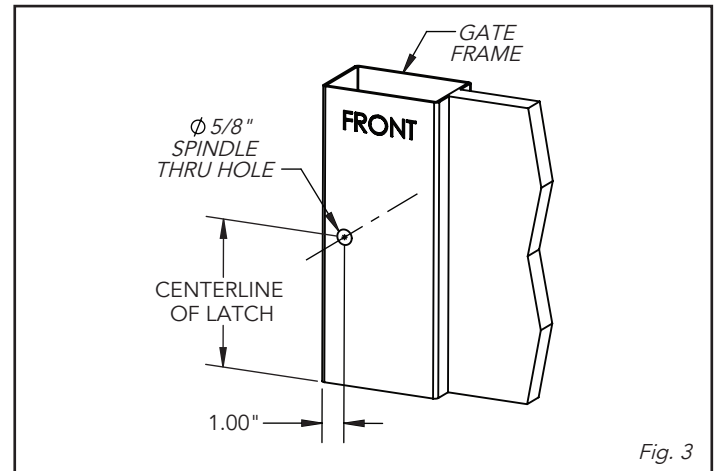

Fig. 3
6. Drill a $\varnothing 5/8"$ hole at the "5/8" center mark (handle spindle location) on the front and back of the gate (Fig. 3).